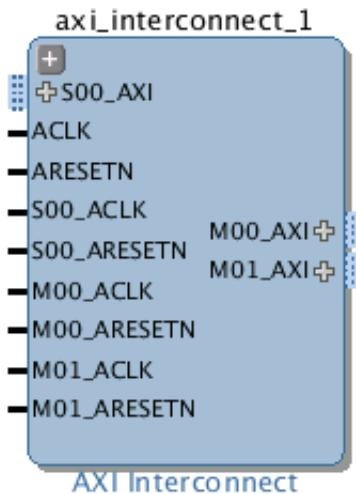

Figure 41: `axi_interconnect_1` Block Diagram
1. In the IP integrator block diagram, launch the **Add IP** option, find **AXI Interconnect IP** and add it to the diagram (Figure 41).